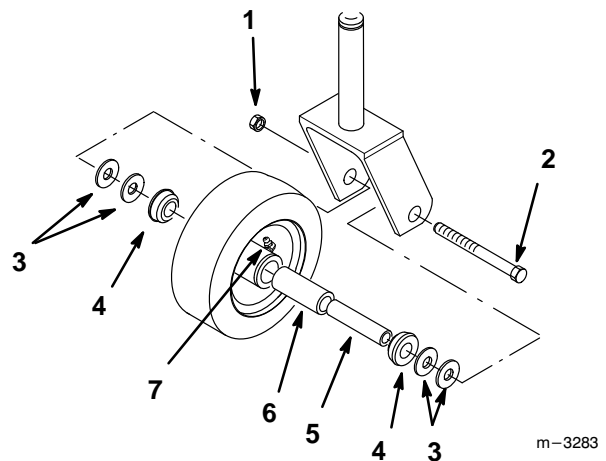

Figure 36
1. Remove the locknut and wheel bolt holding the castor wheel to the castor fork (Fig. 36).
2. Remove the washer and bushing, then pull the spanner bushing and roller bearing out of the wheel hub (Fig. 36).
3. Remove the other bushing from the wheel hub and clean any grease and dirt from the wheel hub (Fig. 36).
4. Inspect the roller bearing, bushings, spanner bushing and inside of the wheel hub for wear. Replace any defective or worn parts (Fig. 36).
5. To assemble, place one (1) bushing into the wheel hub. Grease the roller bearing and spanner bushing and slide them into the wheel hub. Place the second bushing into the wheel hub (Fig. 36).
6. Install the castor wheel into the castor fork and secure with the wheel bolt and locknut. Tighten the locknut until the spanner bushing bottoms against the inside of the castor forks (Fig. 36).